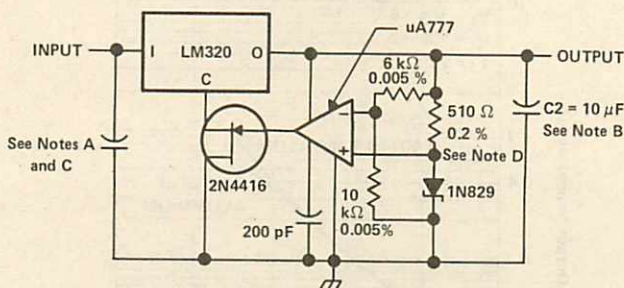

FIGURE 13 — HIGH-STABILITY REGULATOR
C. In Figure 13 capacitor C1 is solid tantalum.